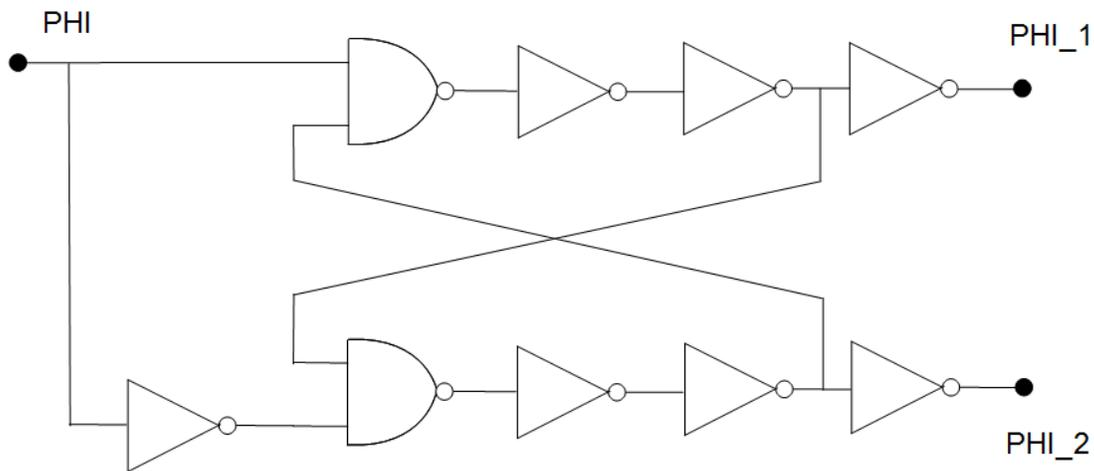

Fig. 3 2-phase clock generator **IMPORTANT NOTE CHANGE!**
2-phase non-overlapping clocks  $\phi_1$  and  $\phi_2$  are required to drive the shift register. These clocks can be generated on chip using the circuit of Fig. 3. The inverters at the output of the NAND gates ensure that  $\phi_1$  and  $\phi_2$  do not overlap.
2. 2-phase clock generator (Fig. 3)